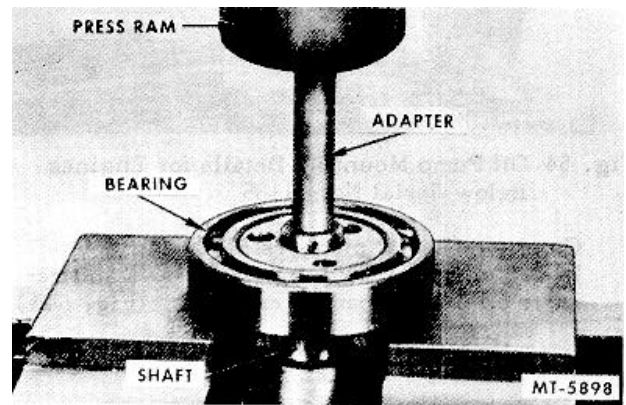

Fig. 61 Pressing Front Bearing From Injection Pump Drive Shaft
54. Place injection pump drive shaft in a press and with an adapter press bearing from shaft (Figure 61).